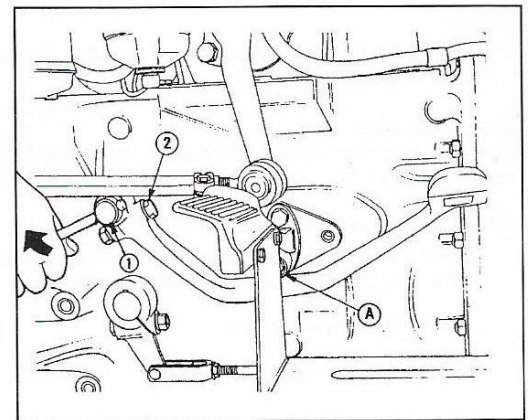

Fig. 87
1. Insert a tommy bar in the hole at the end of the clutch operating shaft (1, Fig. 87) and rotate it clockwise until resistance is felt.
2. Slacken the clamp bolt (2) securing the arm to the shaft and set the distance between the top of the pedal arm and the bottom of the footstep bracket (A) to 11 mm (7/16 in).